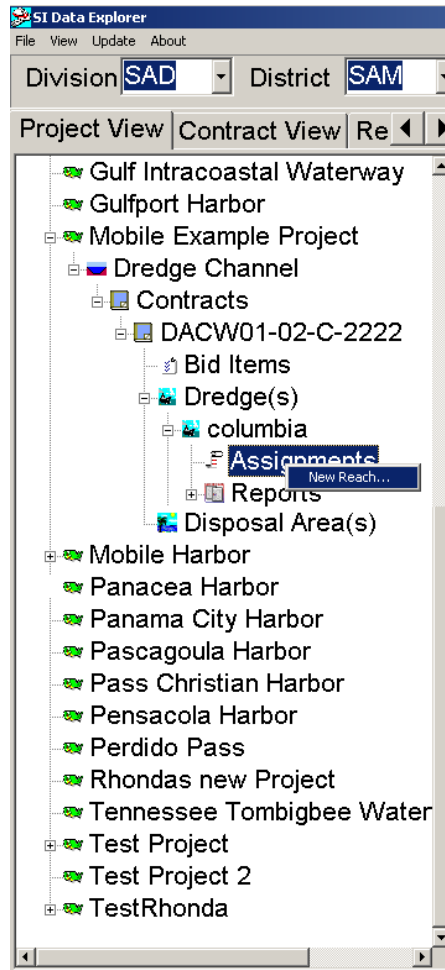

Figure 1.25 Right click on assignment to create a new reach
1. Right click on *Assignment* in the project view located under the dredge (See Figure 1.25) and select *New Reach*.